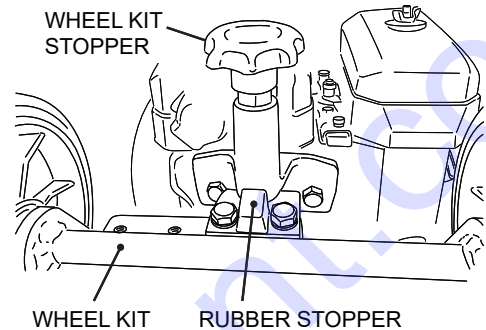

Figure 16. Self-Locking System
4. When the stopper rubber of wheel kit makes contact with the wheel kit stopper, the wheel kit is set at storing position by the self-locking system (Figure 16).